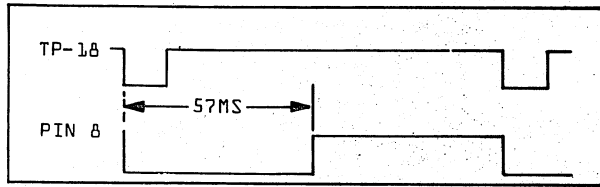

FIGURE 5-33. RATE LIMITOR ADJUSTMENT
5. Adjust pot R55 on 7PC2 so that pin 8 goes to a low level for 54.6 to 60 msec (See Figure 5-33).